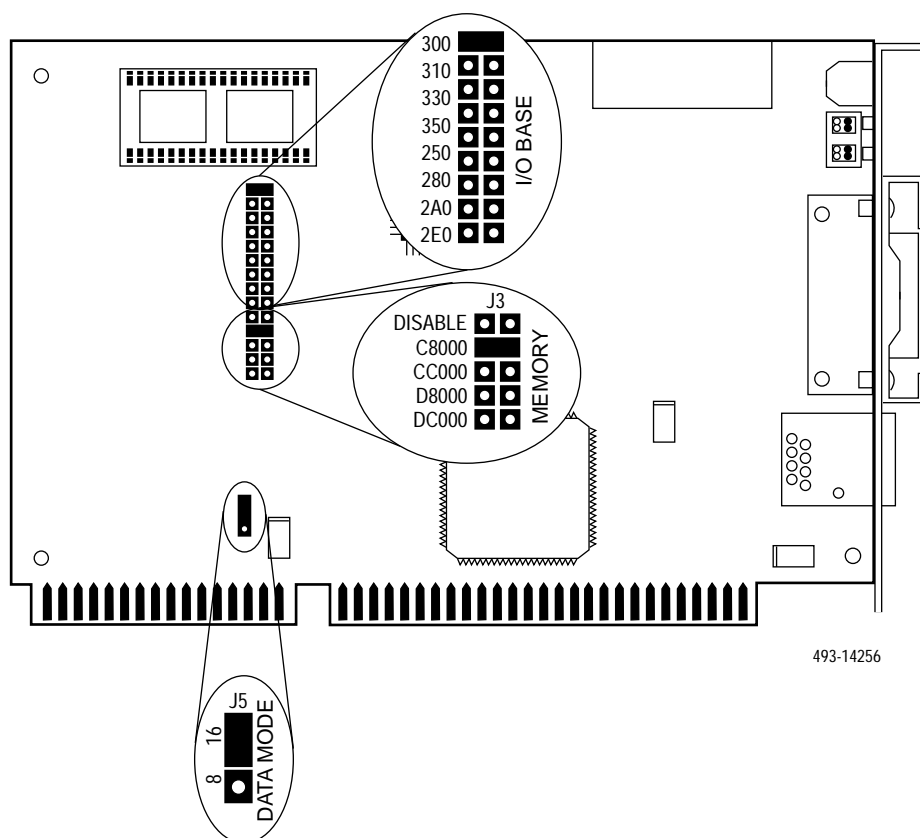

Figure 2-27. EtherLink II Card Jumper Settings
1. Check the jumper settings on the EtherLink II card (see Figure 2-27). Confirm that: